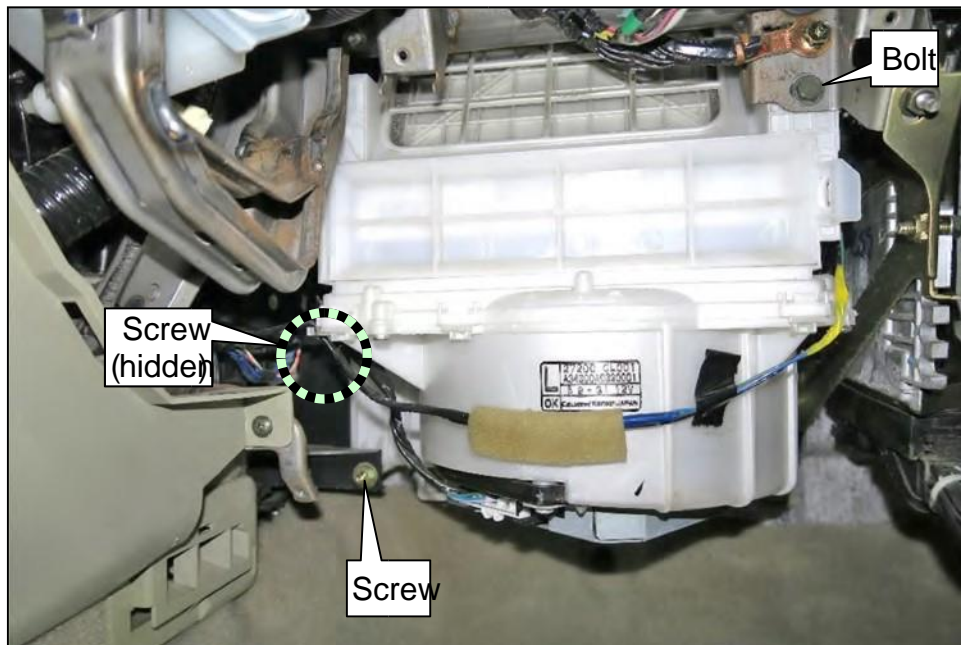

Figure 10
14. Remove the two (2) screws and one (1) bolt (see Figure 10).
HINT: One of the two screws is hidden (see Figure 10).